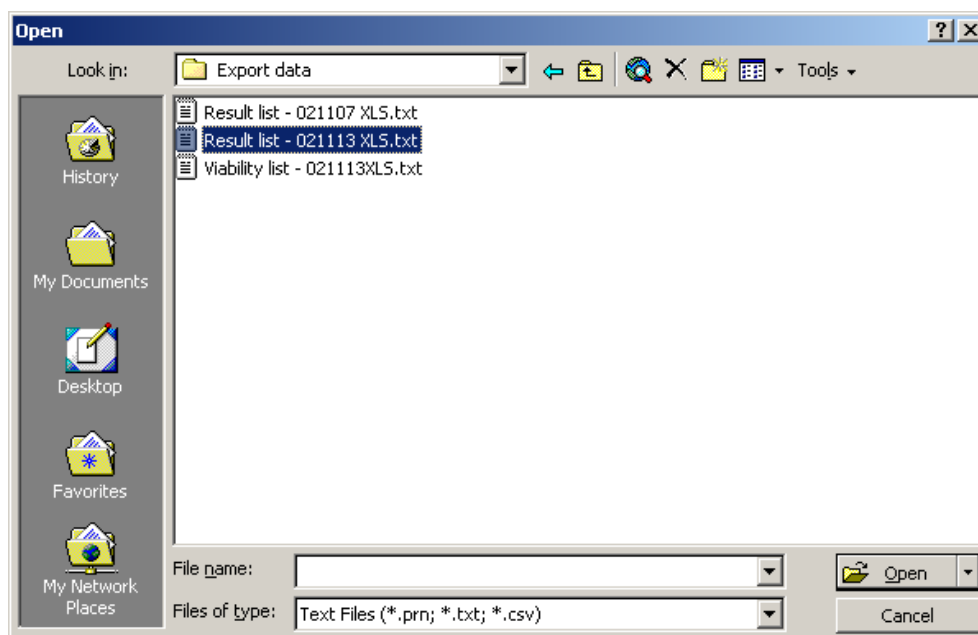

Figure 31 Open Excel
1. To import a report first open Excel and activate the "Open..." function e.g. through the file menu. The dialogue shown in figure 31 appears.